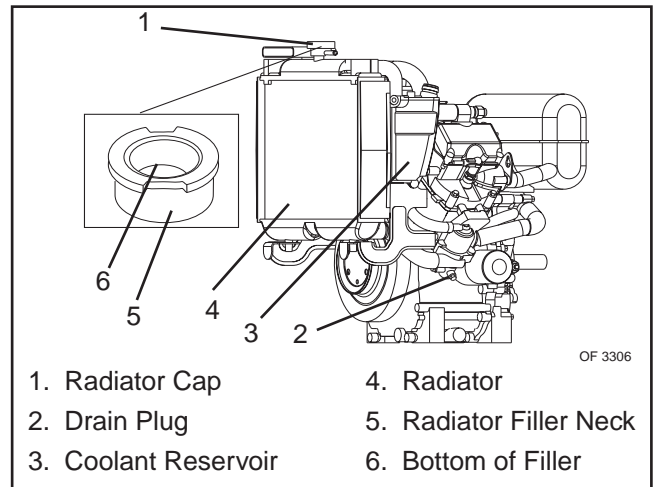

Figure 24
2. Remove radiator cap (Figure 24).